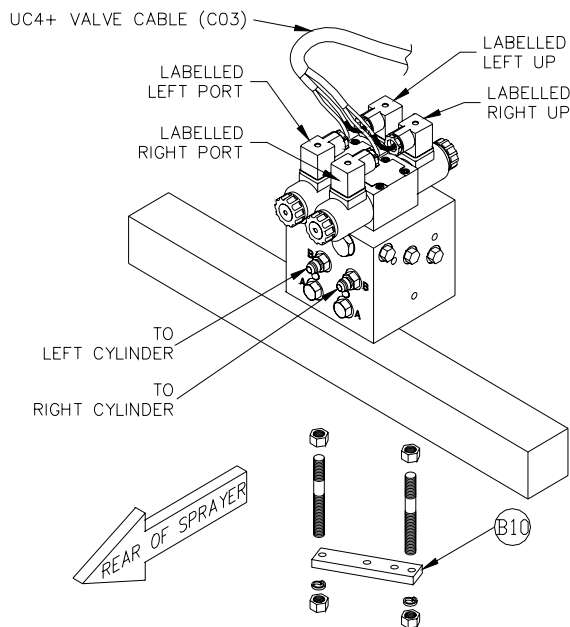

Figure 22 – Valve Mounting Location
2. As shown in **Figure 22**, screw short side of the threaded rods into the bottom of the valve block at least 3/8". The valve mounting holes are drilled and tapped 3/8 NC-1" deep.